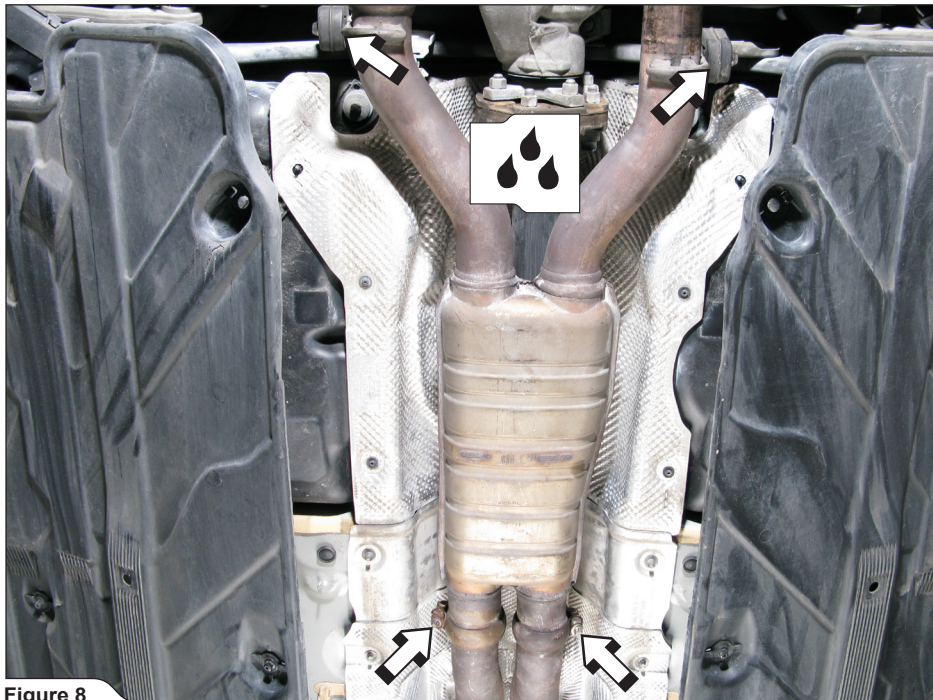

Figure 8
7. **For Evolution only:** unscrew the marked spherical clamps and pull the rubber brackets off the pipes (**Figure 8**).